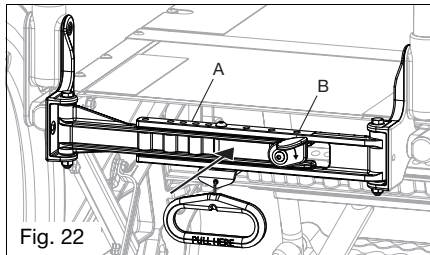

Fig. 22
1. Remove all of the slack in the strap by pulling the end of the strap (Fig. 22:A). You may need to help push slack through the middle clip and then pull the end of the strap to remove the slack in some cases.